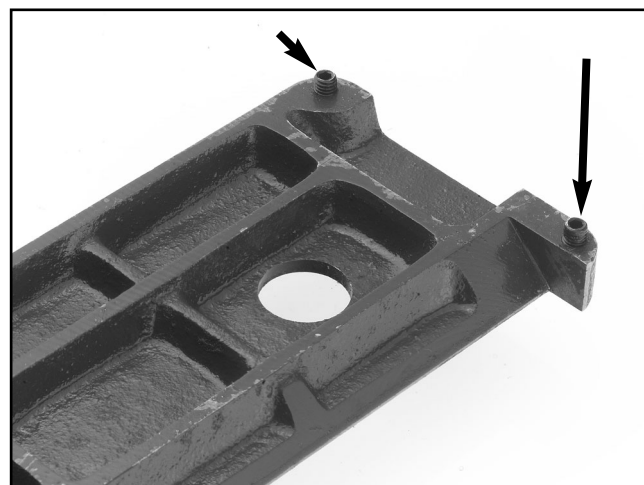

Figure 13. Setscrew on each corner of insert.
2. Using a 6mm hex wrench, adjust the setscrews (**Figure 13**) until they are firmly in contact with the table casting and the insert is flush with the table top.